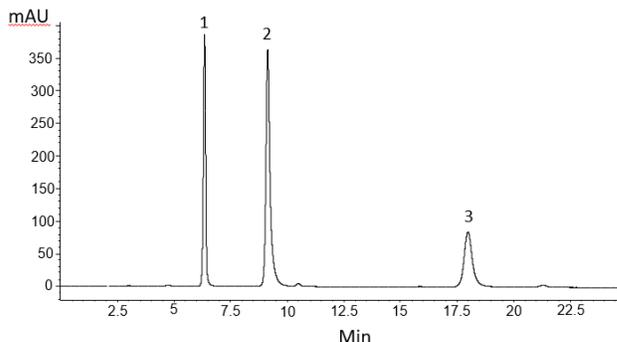

Figure 1. Elution profiles of a standard mixture by *Polar Imidazole* (5µm, 120Å) column
*Polar-Imidazole* uses full coverage bonded silica packing, which allows exceptionally high stability. Such high stability allows *Polar-Imidazole* to be extremely suitable for validation of various analytes. The unique polymeric bonding chemistry for *Polar-Imidazole* avoids the formation of multiple imidazole layers. Such uniform stationary phase allows achieving high selectivity and high efficiency separations. Separations could be in the non-polar solvents, such as hexane, or polar solvents, such as a mixture of acetonitrile and water. A typical test chromatogram for quality control is shown in Figure 1 for a 4.6x250mm column.